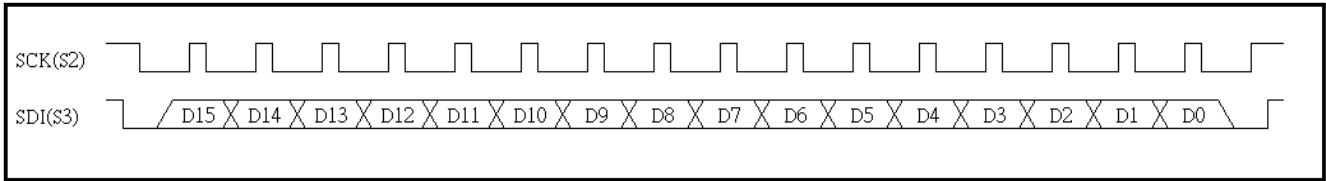
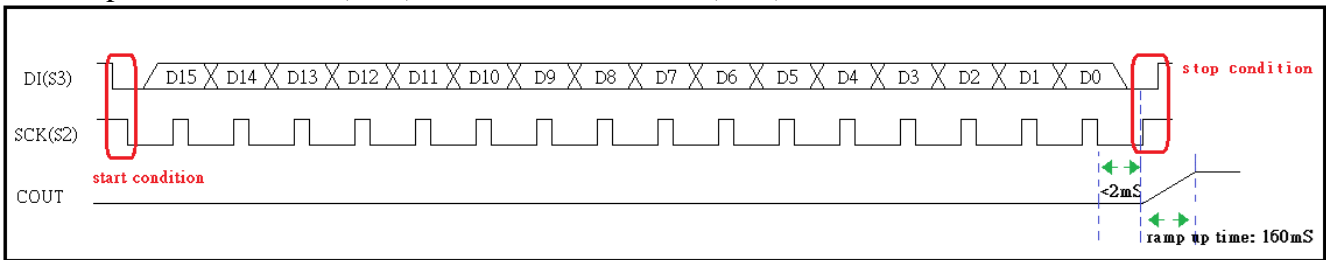
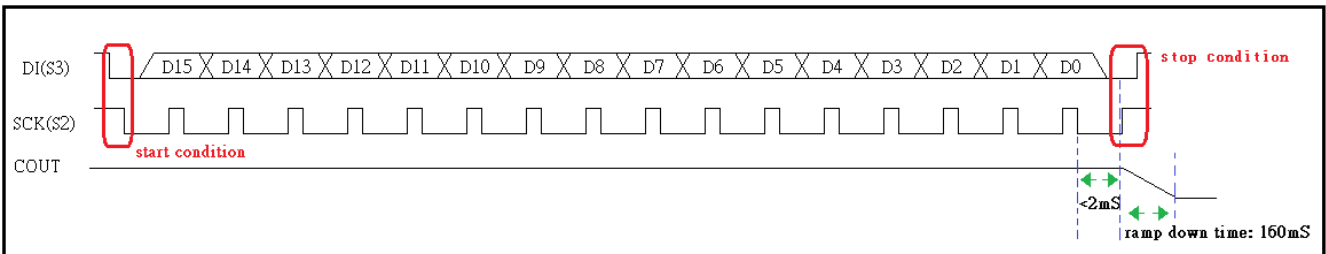

Fig.15 I2C Command timing
Fig. 16 Power-Up command timing
Fig. 17 Power-Down command timing
- (1). Load Voice Group Address :
- a. Command timing reference Fig.15 I2C Command timing.
- (2). Play Voice Group Address :
- (3). Power up with RAMP-UP(PU2) or without RAMP-UP(PU1) :
- a. Command timing reference Fig. 16 Power-Up command timing.
- (4). Power-down with RAMP-DOWN(PD2) or without RAMP-DOWN (PD1) :
- a. Command timing reference Fig. 17 Power-Down command timing.
- (5). Volume Set (VOL[3:0]) :
- (6). Volume - - (VOL--):
- (7). Volume + + (VOL++):
- (8). Pause and Resume (PAUSE; RESUME) :
- (9). Rewind :